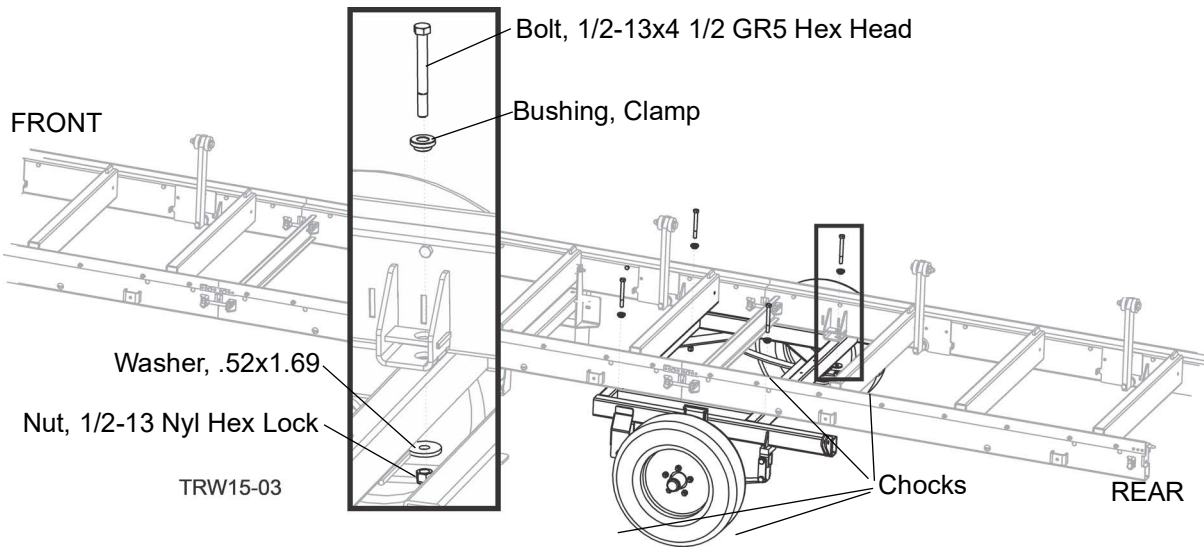

FIG. 2-5
7. Assemble the center jack assembly to the middle bed section as shown in Fig.2-5
8. Assemble the axle assembly to the middle bed section. See Fig. 2-5.
9. Secure the axle assembly to the sawmill bed as shown in Fig. 2-5.